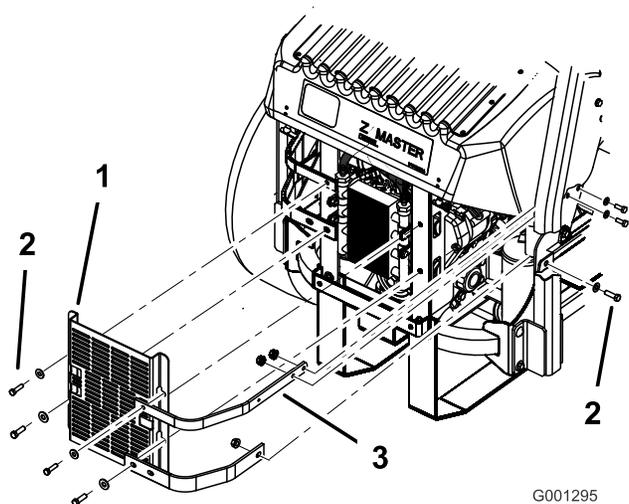

Figure 70
- Remove the 4 bolts holding the oil cooler shield to the rear frame (Figure 70).
- Remove the 3 bolts holding the engine straps to the side of the machine (Figure 70).
- Install the oil cooler shield and engine straps to the rear frame with the 4 bolts previously removed (Figure 70).
- Install the engine straps to the side of the machine (Figure 70).